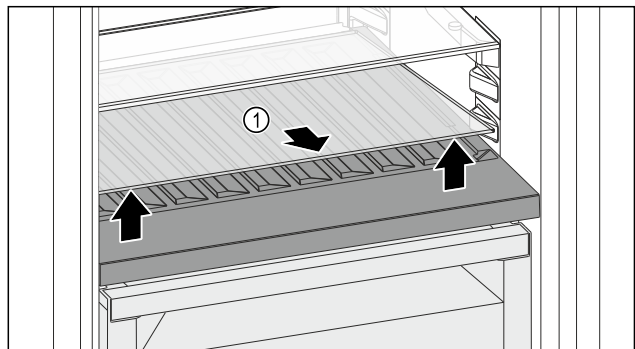

Fig. 149
- ▶ Lift the glass shelf Fig. 149 (1) at the front and remove.
- ▶ Store the glass shelf Fig. 149 (1) in a safe place outside the appliance.
- ▶ Insert the glass shelf (2) under the variable bottle rack.